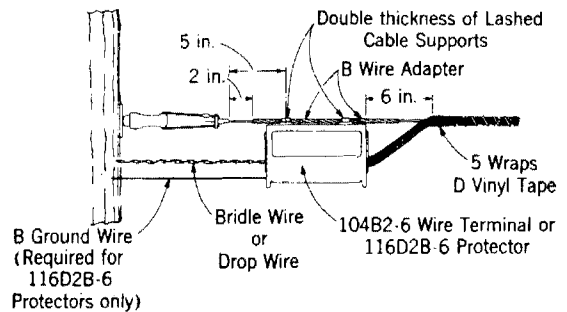
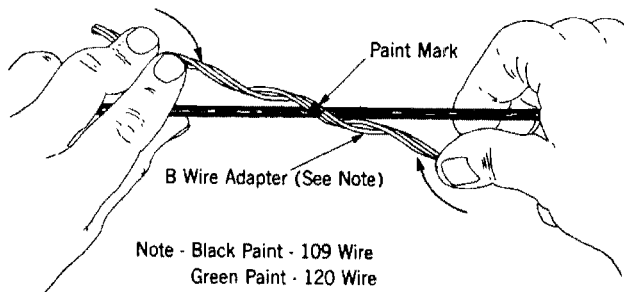

Fig. 7 - Multiple Line Wire Deadend
Fig. 9 – Installation of B Wire Adapter
3.01 The 104B2-6 Wire Terminal or 116D2B-6 Protector can be placed on the insulated support wire. At deadend poles, this can be accomplished by using two B Wire Adapters and two lashed cable supports as shown in Fig. 7 and described in 3.03.
(1) Place the 3-wire set first, starting at the center which is marked by paint, as shown in Fig. 9. Place the 3-wire set (gauge by eye) on the support wire so that it is centered at the terminal clamp nearest the pole (see Fig. 7). Wrap the set so it is spiraled around the support wire from the center out to the ends in each direction at once using the thumb and forefinger of each hand. Be sure that the ends are snapped into place over the support wire.
(b) Start the second B Wire Adapter on the support wire with the paint mark about 3 inches from the end of the first B Wire Adapter so that it is centered at the far terminal clamp. (See Fig. 7.)